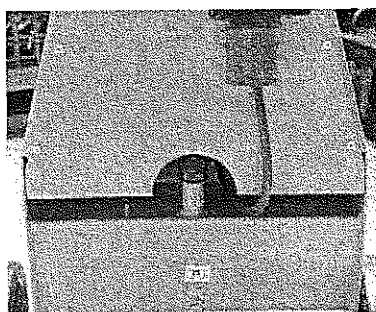

Fig.11 Guard
- Remove the screws which fix the guard protecting the hydraulic system (fig. 11).
- Re-close the guard (fig. 11).